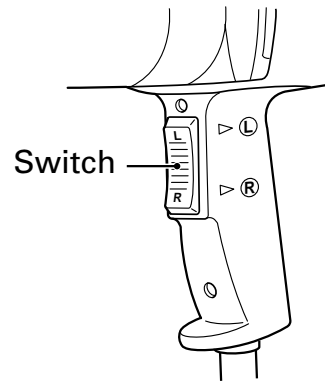

Fig. 4
1. Operation of switch (Fig.4)